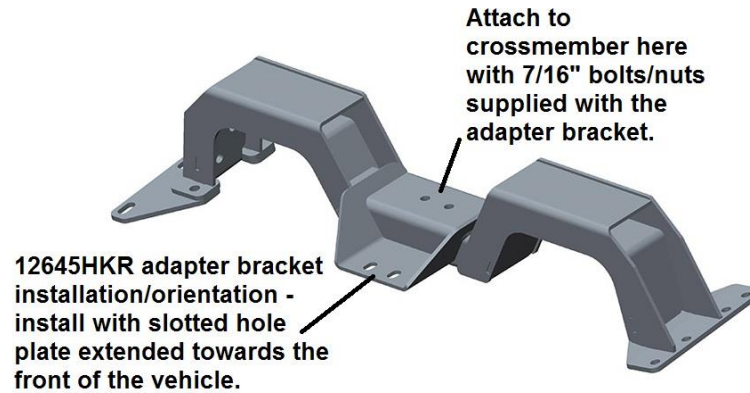

Figure 2
6. If installing a 4th-gen F-body/GTO T56 or aftermarket T56 Magnum transmission (if not, skip to step 7 below), attach the available 12645HKR Hooker transmission crossmember adapter bracket to the crossmember, as shown in **Figure 2** below, with the bolts/nuts supplied with the adapter bracket. The bolts should be installed from the top of the adapter followed by the nuts being installed through the holes in the bottom of the crossmember center beam. Tighten the bolts/nuts to approximately 70 ft./lbs.